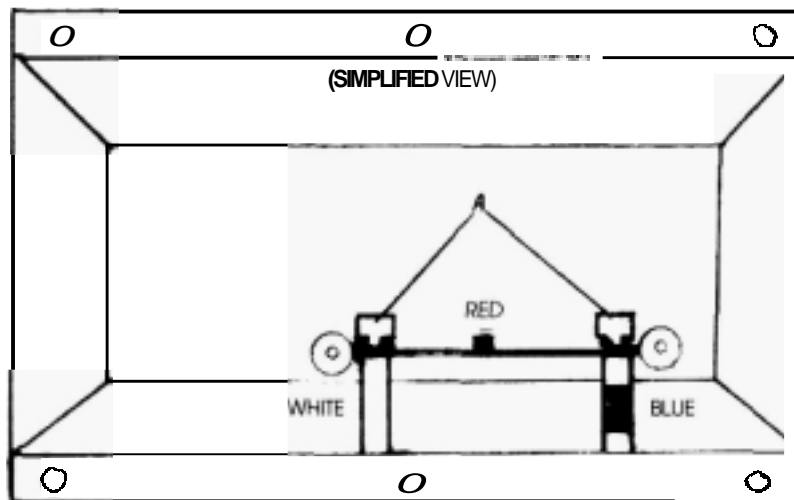

FIGURE 1
7. (Refer to Figure 1). Insert the pin plug into the **RED** socket on the circuit board of the interface unit. Attach the **BLUE** hook to the board on the right side, identified by the blue tape on the nylon spacer below the thumbscrew, and the word "Blue". Loosen the thumbscrew three turns. Place the hook between the thumb screw and the washer, and tighten securely. Repeat the same procedure for the **WHITE** group, at the white side of the circuit board.